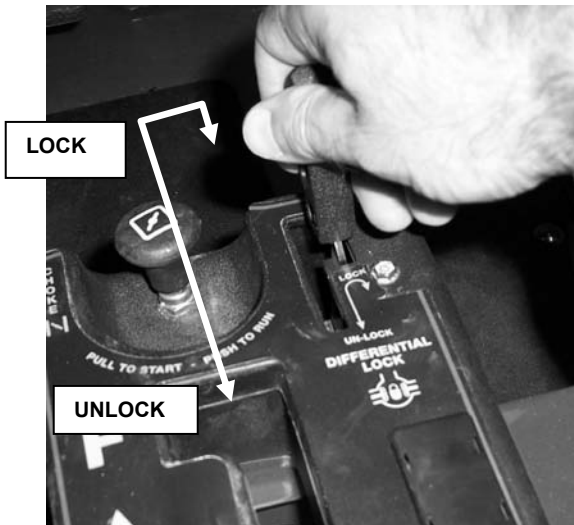

FIGURE 2.4a
**2.2.4. Differential Lock.** The differential lock increases traction by causing both rear wheels to pull evenly. Move the lever towards the front of the slot and latch to “Lock” the differential. (See Figure 2.4a.) Unlatch the lever and move to the back of the slot to “Unlock” the differential. Do not attempt to lock the differential until all wheel rotation has stopped. Do Not operate the machine in excess of 10 mph or attempt to turn the machine with the differential locked. Always unlock the differential when increased traction is no longer needed.